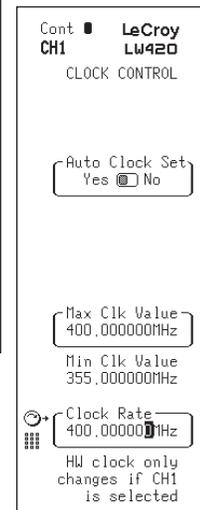

Figure 13.2
2. Press the **Clock Control** softkey to access the **Clock Control** menu—figure 13.2.